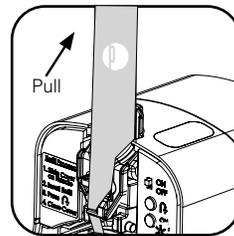

Figure 10
11. Pull the handle and release to advance the sleeve (repeat until sleeve is tight and no binding/jamming). (Fig. 10)